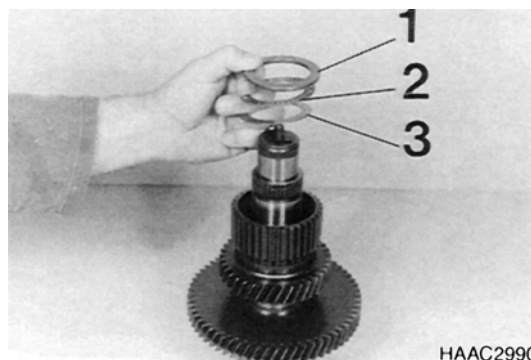

Figure 219
11. Assemble axial washer (3, Figure 219) (50 x 70 x 1) needle cage (2) and running disk (1) (50 x 70 x 4).